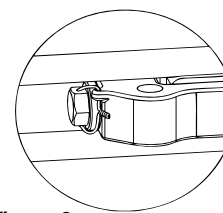

Figure 6
- Properly install wire to securely lock tensioner bolt to tensioner. (See Figure 6).